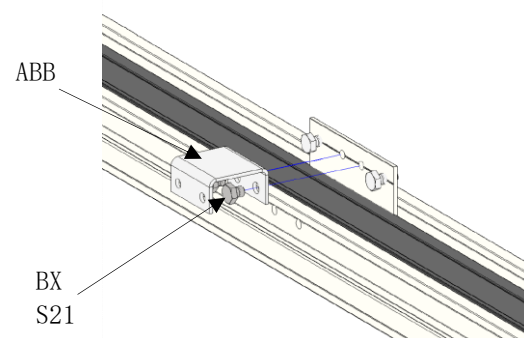

fig. 150
- screw the connection plate (**item ABB**) to the connection of the side window (inside) (**item DF**) using 2x hexagon head screws (**item BX S21**). (**fig. 150**)